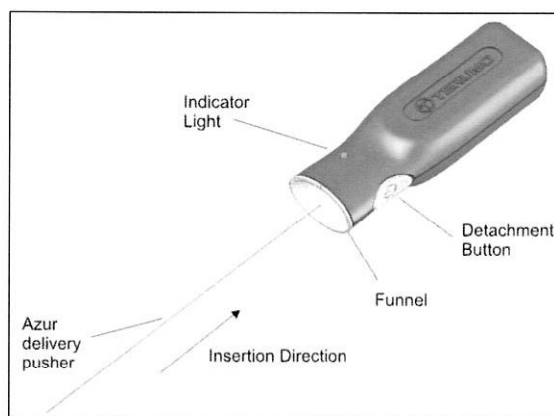

Figure 2 – Azur Detachment Controller
14. Prior to using the device, remove the proximal end of the delivery pusher from the packaging hoop. Use care to avoid contaminating this end of the delivery pusher with foreign substances such as blood or contrast. Firmly insert the proximal end of the delivery pusher into the funnel section of the Azur Detachment Controller. See Figure 2. **Do not push the detachment button at this time.**
31. Connect the proximal end of the delivery pusher to the Azur Detachment Controller by firmly inserting the proximal end of the delivery pusher into the funnel section of the Azur Detachment Controller. See Figure 2.